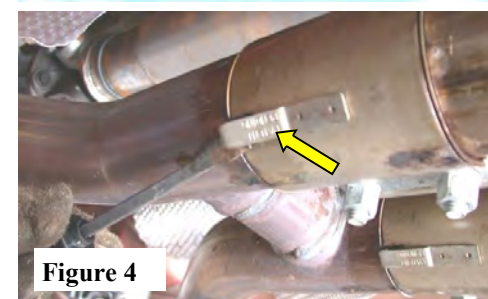

Figure 4
4. Beginning with the left (driver) side, using a flat blade screwdriver, pull the clip to disengage it from the pipe. (See Fig. 4)